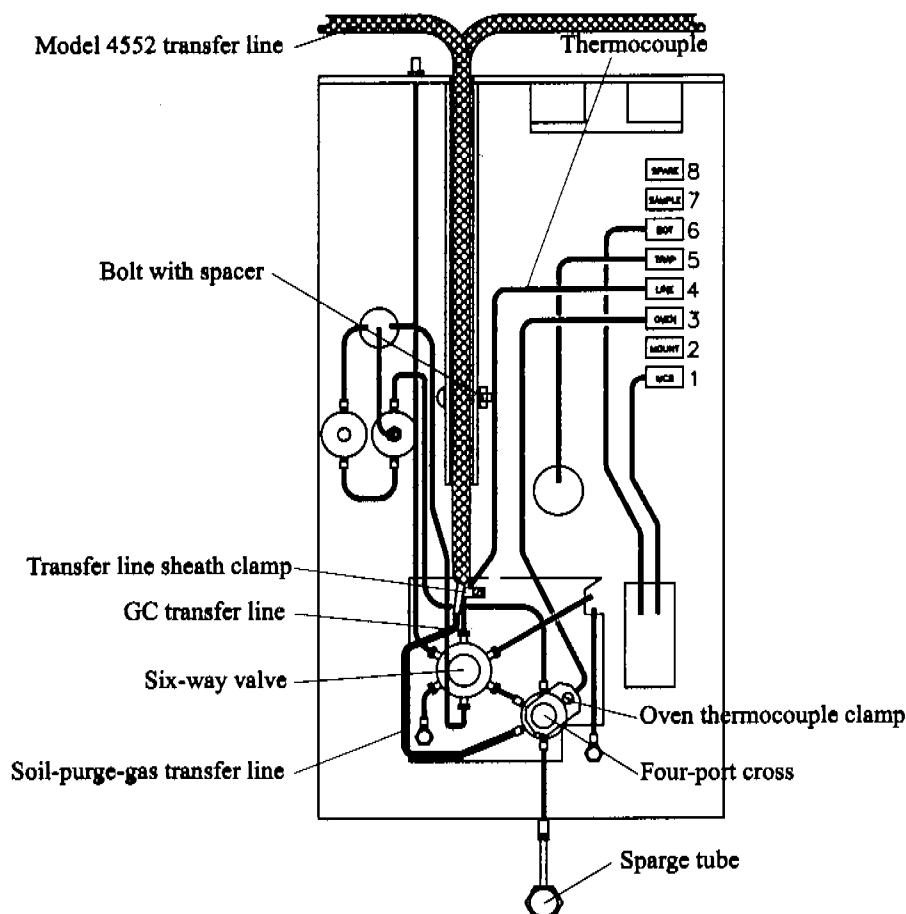

Figure 3.12. Locating the four-port cross and attaching the Model 4552 water transfer line
The Model 4552 interacts with the Tekmar 3000 through the four-port cross fitting (Figure 3.12). Attach the soil-purge-gas transfer to the Tekmar 3000 using the following procedure.
5. Bend the soil-purge-gas transfer line's end so it fits into the open port on the four-port fitting. Tighten the nut using a $\frac{1}{4}$ " open-ended wrench (Figure 3.12). Be careful not to kink the line.